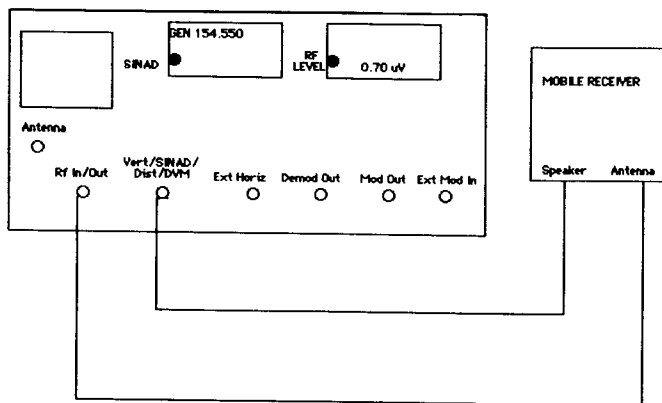

FIGURE 5.2—SINAD/20 dB QUIETING TEST SETUP AND DISPLAY
1. Connect the service monitor to the receiver under test, as shown in Figure 5.2. Set the left LCD to "DVM", "Function" switch to "Gen" and select "FM" or "CW" mode. Press "Gen On/Off" to disable the generate function, indicated by the flashing "Gen" indicator on the left display.
1. Connect the service monitor to the receiver under test, as shown in figure 5.2. Set the "Function" switch to "Gen" and modulation to "FM". Enter the frequency of the receiver under test.
1. As shown on figure 5.2, connect the Monitor's "RF In/Out" to the antenna connector of the receiver under test. Connect the service monitor's "Vert/Sinad/Dist" to the receiver's audio output. Disable all PL's and open the Squelch.
1. Referring to figure 5.2, set "Function" switch to "Gen" and modulation to "FM". Enter the RF frequency and PL code.
1. Perform the 12 dB SINAD Sensitivity test with the service monitor in the same set-up as shown in figure 5.2.